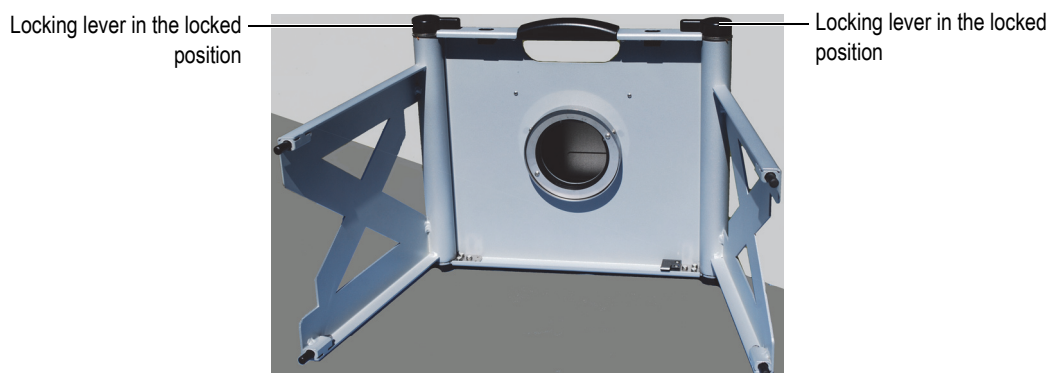

Figure F-6 Legs locked into position
4. Lock the legs into place using the two locking levers (see Figure F-6 on page 169).